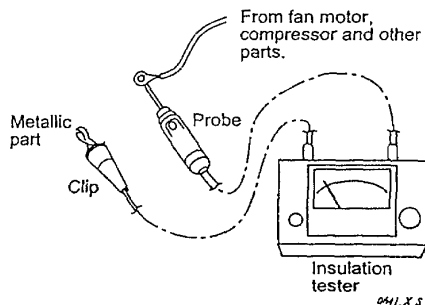

Fig. 16
- Similarly, disconnect the lead wires from compressor, capacitor, etc. (Fig. 16)